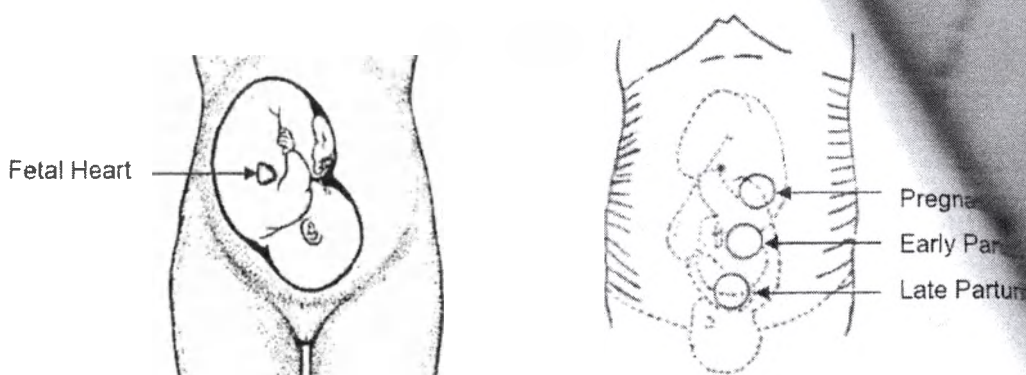

Fig. 8-1 Positioning Ultrasound Transducer (single fetus)
- Search for the location of the fetal heart using a stethoscope or a fetoscope. The best fetal heart signal can be obtained through the fetal back. See the Fig.8-1 as below.